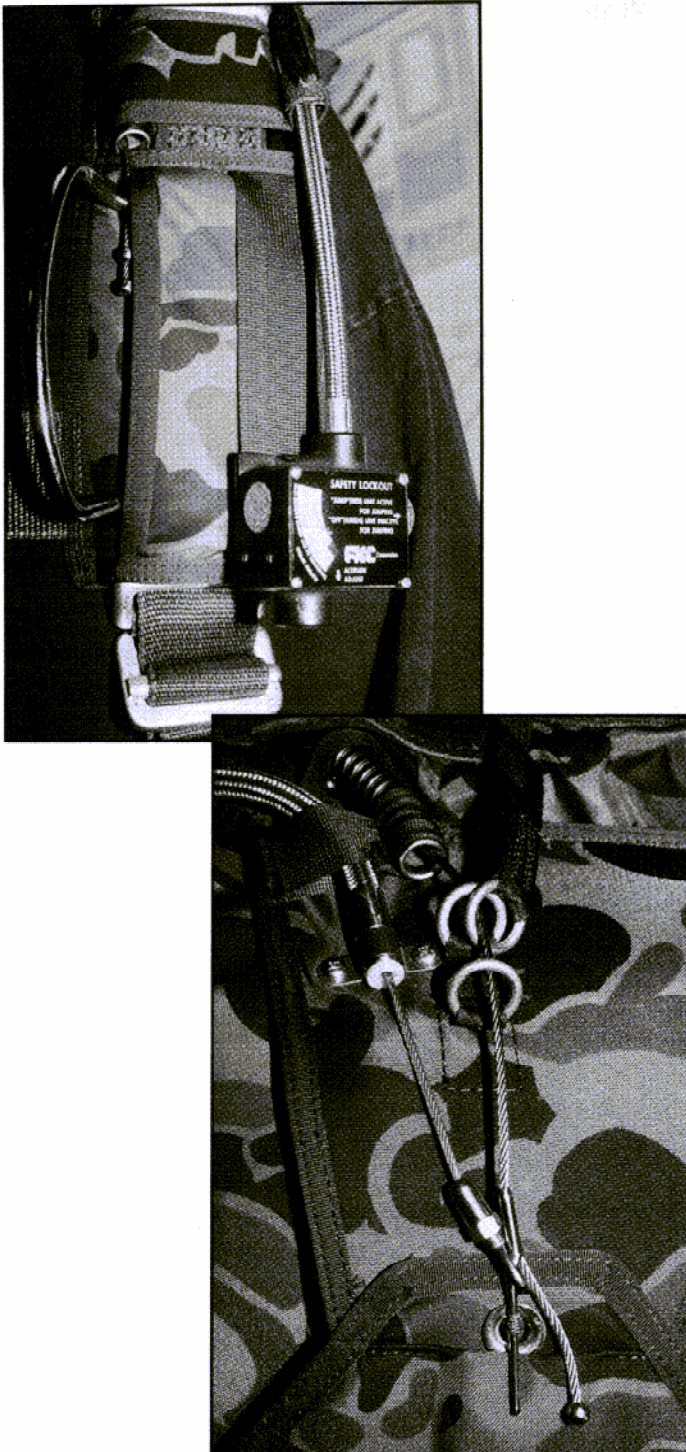

FIGURE 4
**D.** Before closing the pack, the two bottom opening bands should be secured as shown. The Power Cable should be secured by tacking stitches (Figure 4).